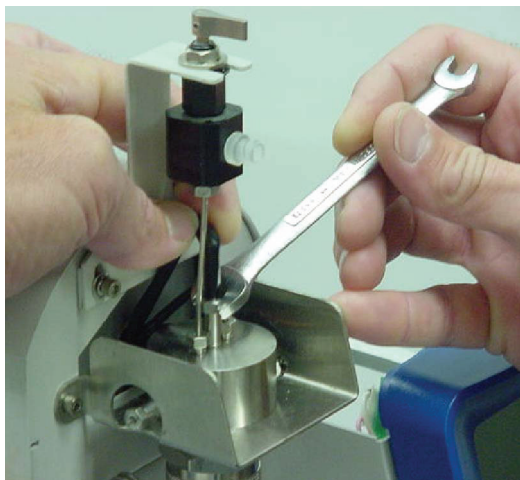

Figure 8.9. Tightening the Foam Buster heater/thermocouple nut
8. Tighten the Foam Buster heater/thermocouple nut while holding the Foam Buster heater/thermocouple in place (Figure 8.9).